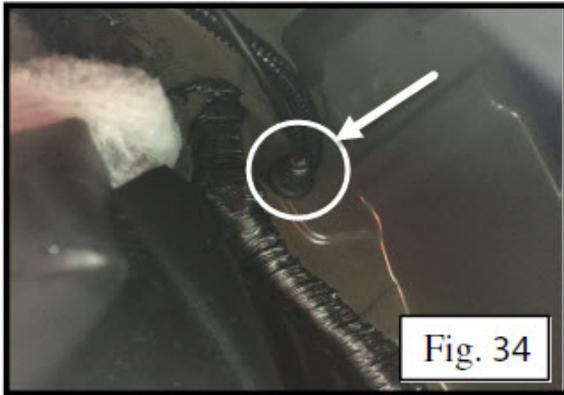

Fig. 34
19. Seal area around harnesses through the firewall (white circle/arrow) with automotive sealant (not provided) (Fig.34).